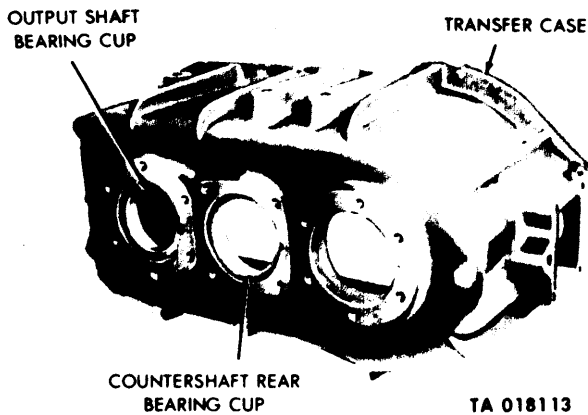

Figure 4-20. Transfer Case Disassembly.
Remove countershaft and rear output shaft bearing cups from the transfer case, using suitable remover and replacer (item 6, table 2-1). (See fig. 4-20.)
- b. Transfer case (fig. 4-20).